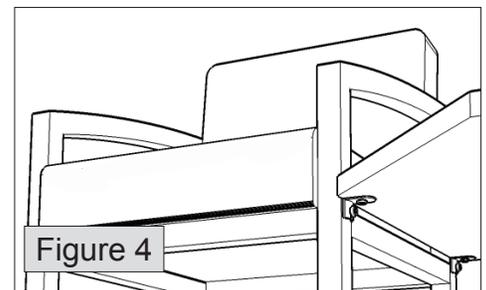

Figure 4
10. Press down on tabletop until arm bolts are fully inserted into each of the bracket slots, as shown in figure 4. Be sure back leg of table is resting on floor during this step. Tighten all bolts securely.